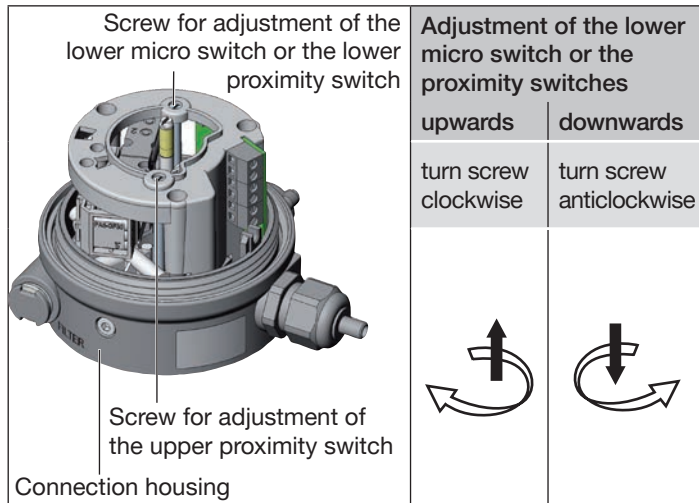

Fig. 22: Adjustment of the micro switch and the proximity switches
- Adjust the lower micro switch or the proximity switches via the adjusting screw(s) (see “Fig. 22”).